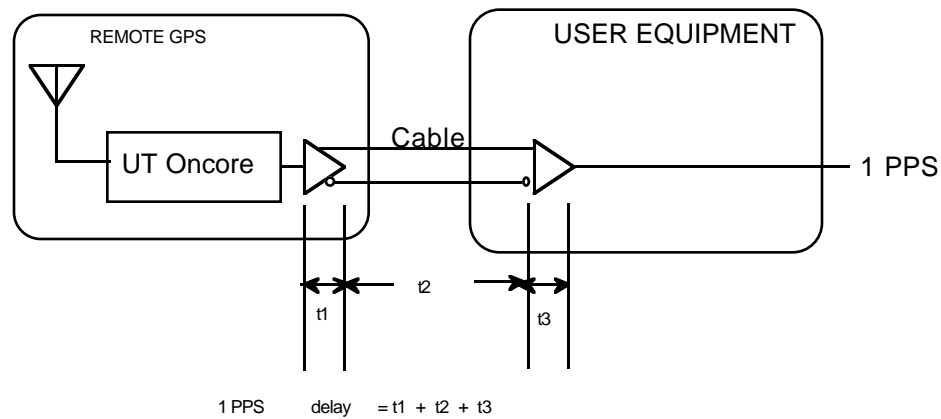

Figure 1 1PPS Delay
- Accuracy: 130 nanoseconds observed (1s) with SA on. In position hold mode, < 50 nanoseconds observed (1s) with SA, specified at output of the UT Oncore prior to the RS 422/RS485 driver, see FIGURE 1.
- 0 to 5 V level pulse at the output of the user equipment RS422 receiver, delayed by t_1 , t_2 , t_3 , see FIGURE 1.